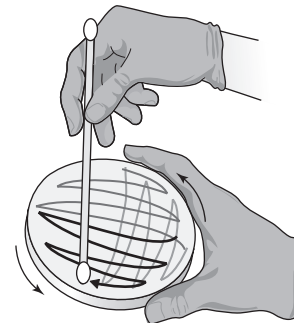

FIG. 10.4.
- Rotate the plate again and repeat step 2 once more. Now the plate has been completely covered three times with the bacterial inoculum (Fig. 10.4).